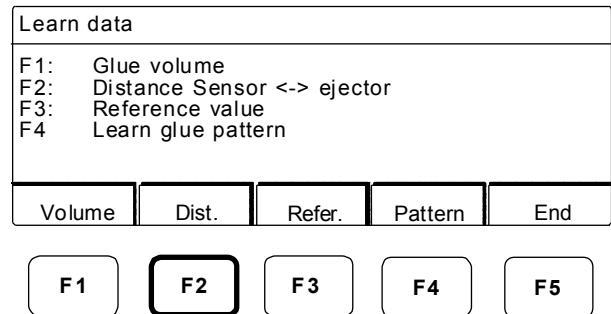
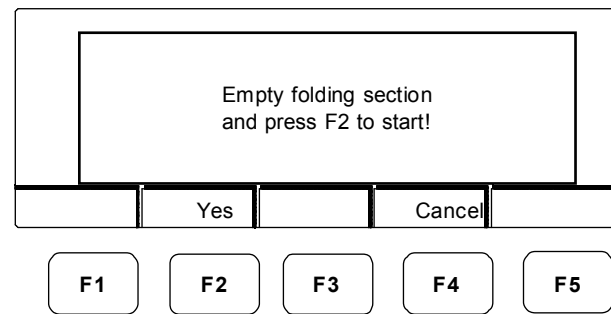

Figure 13-9. The Learn data screen
Figure 13-10.
1. At the “Learn data” screen (Figure 13-9) press F2 (Dist). The screen in Figure 13-10 displays.